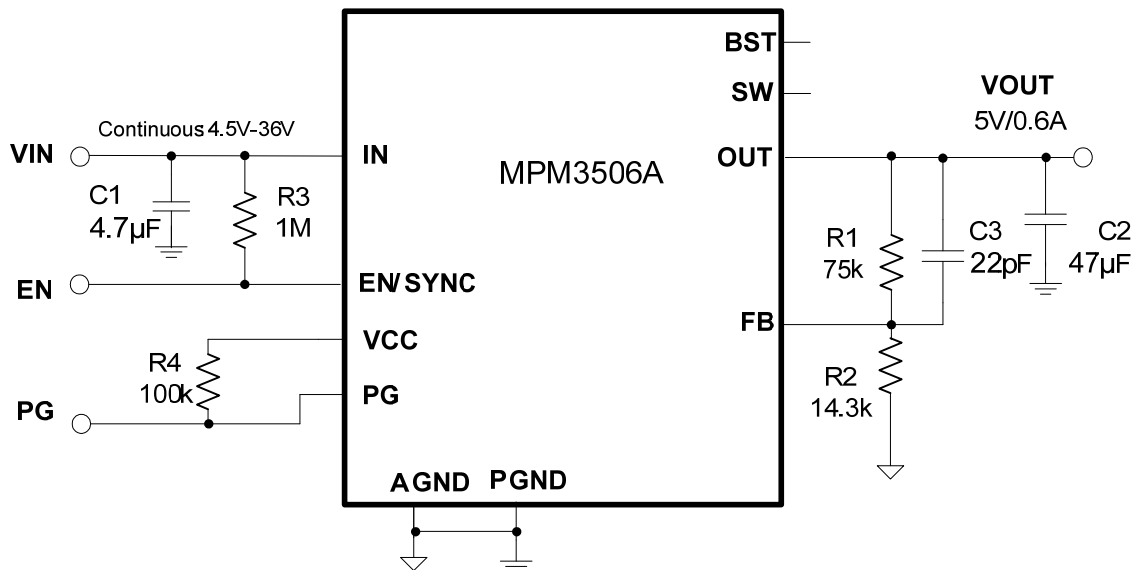

Figure 8: $V_{OUT} = 5V$, $I_{OUT} = 0.6A$
- 8) The recommended layout is based on Figure 8 and the "Typical Application Circuits" on page 18.
The detailed application schematic is shown in Figure 8. The typical performance and circuit waveforms have been shown in the “Typical Performance Characteristics” section. For more device applications, please refer to the related evaluation board datasheets.